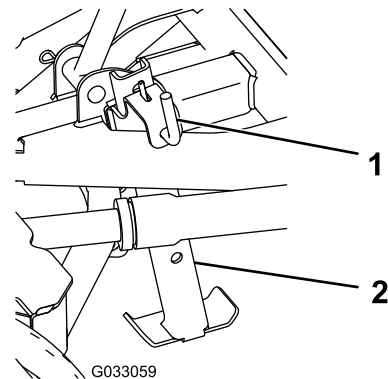

Figure 5
2. Pull the kickstand spring pin and insert the kickstand into the mounting bracket, then release the spring pin to lock the kickstand in place in the lowered position (Figure 5).